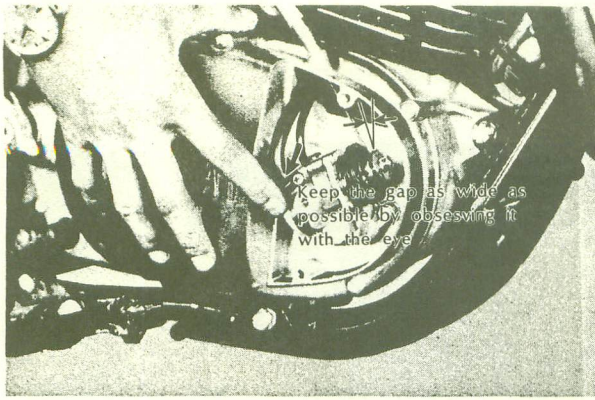

Fig 2-3-10
- 2) Next, rotate the starter plate in the direction of the arrow marked on the plate. Continue turning the plate until no air remains, and tighten the bleeder bolt. To facilitate this bleeding, fully open the accelerator grip and rotate the starter plate. As the plunger stroke becomes greater, the air can be quickly bled. (Fig 2-3-10)